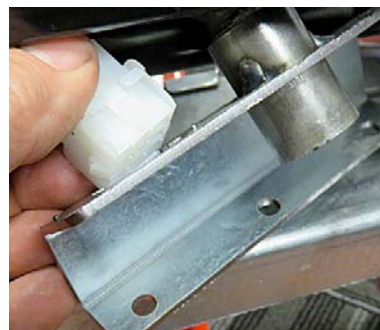

Figure 70
68. Insert the 9-pin female connector into the dispose assembly (see Figure 70).